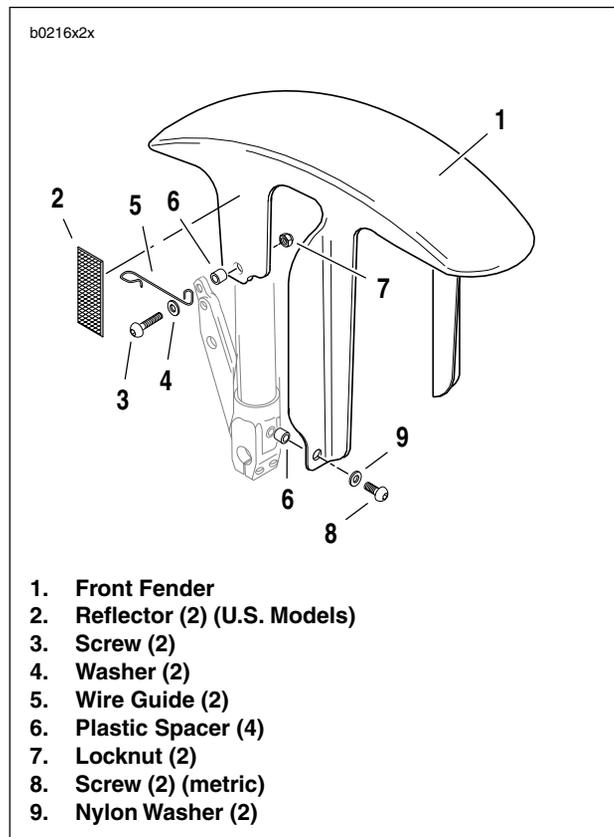

Figure 2-114. Front Fender
3. See Figure 2-114. Remove lower fender mounting screws (8) (metric), washers (9) and plastic spacers (6).
4. Remove upper fender mounting screws (3), washers (4), wire guides (5), plastic spacers (6) and locknuts (7).
5. Carefully remove fender (1) from between front forks.
- a. Tighten upper fender mounting screws (3) to 20-25 **in-lbs** (2-3 Nm).
- b. Tighten lower fender mounting screws (8) (metric) to 10-15 **in-lbs** (1-2 Nm).